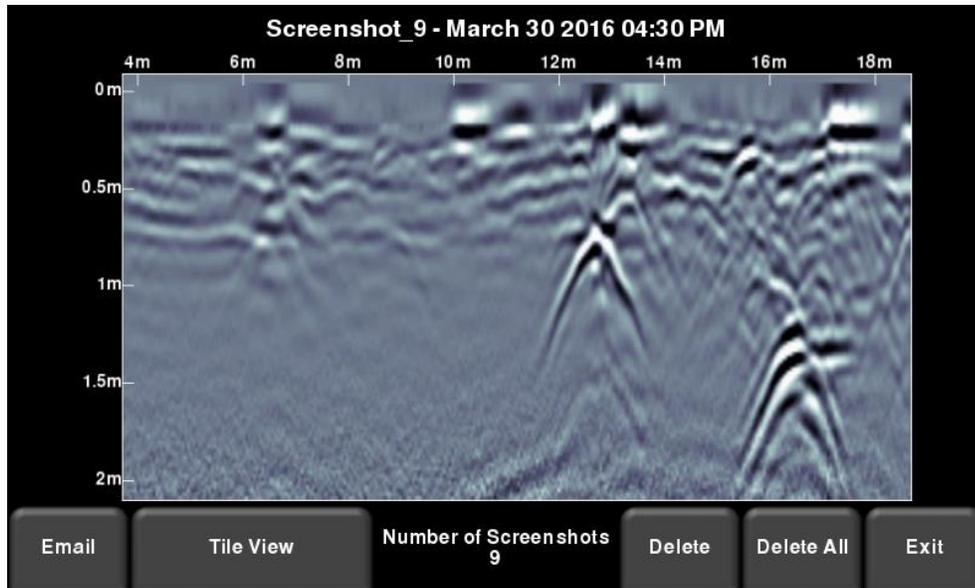

Figure 7-4: Screenshot Gallery – Expanded View
- **Expand** – This will enlarge the selected screenshot to full screen (Figure 7-4)